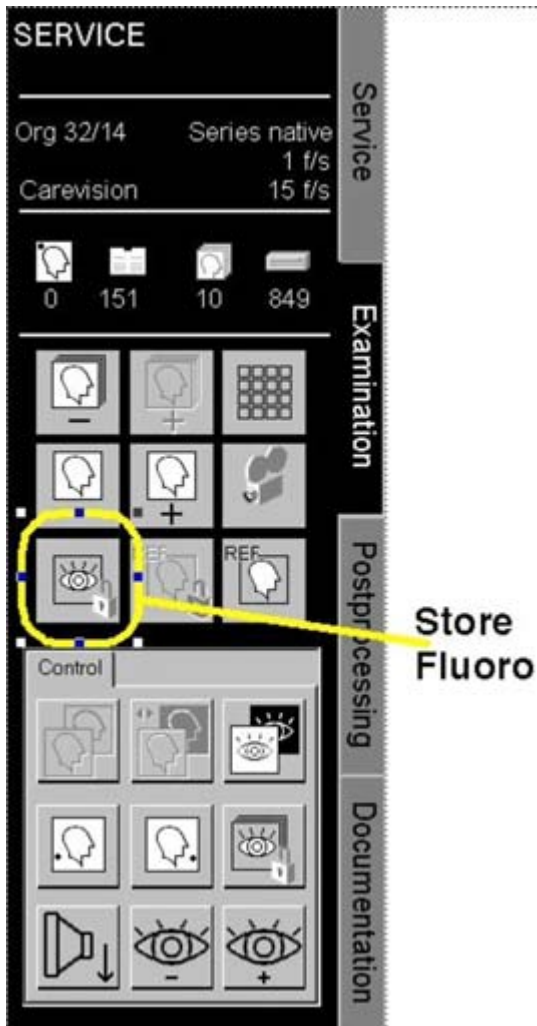

Fig. 2:
- Store the LIH image via the **Store** button for evaluating a fluoro image (Fig. 2 / p. 14).